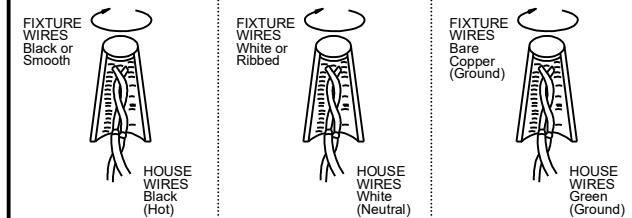

Fig. 4
9. Slide the canopy (D) over the screws (A), and secure with knurled knobs (E).
10. **Dual options:** Screw the acrylic rods (J) into the fixture body (Fig 1) or push end caps (N) into the fixture body (Fig 4).
11. Install (6) six G9 bulbs (L) (included) up to 60 watts each, or CFL or LED equivalent, in accordance with the fixture specification—**DO NOT EXCEED THE MAXIMUM WATTAGE RATING! (NE PAS DEPASSER LA PUISSANCE NOMINALE MAXIMALE!).**
12. Slide the glass shade (M) over the socket and bulb, then twist to secure it to the socket cup (K).